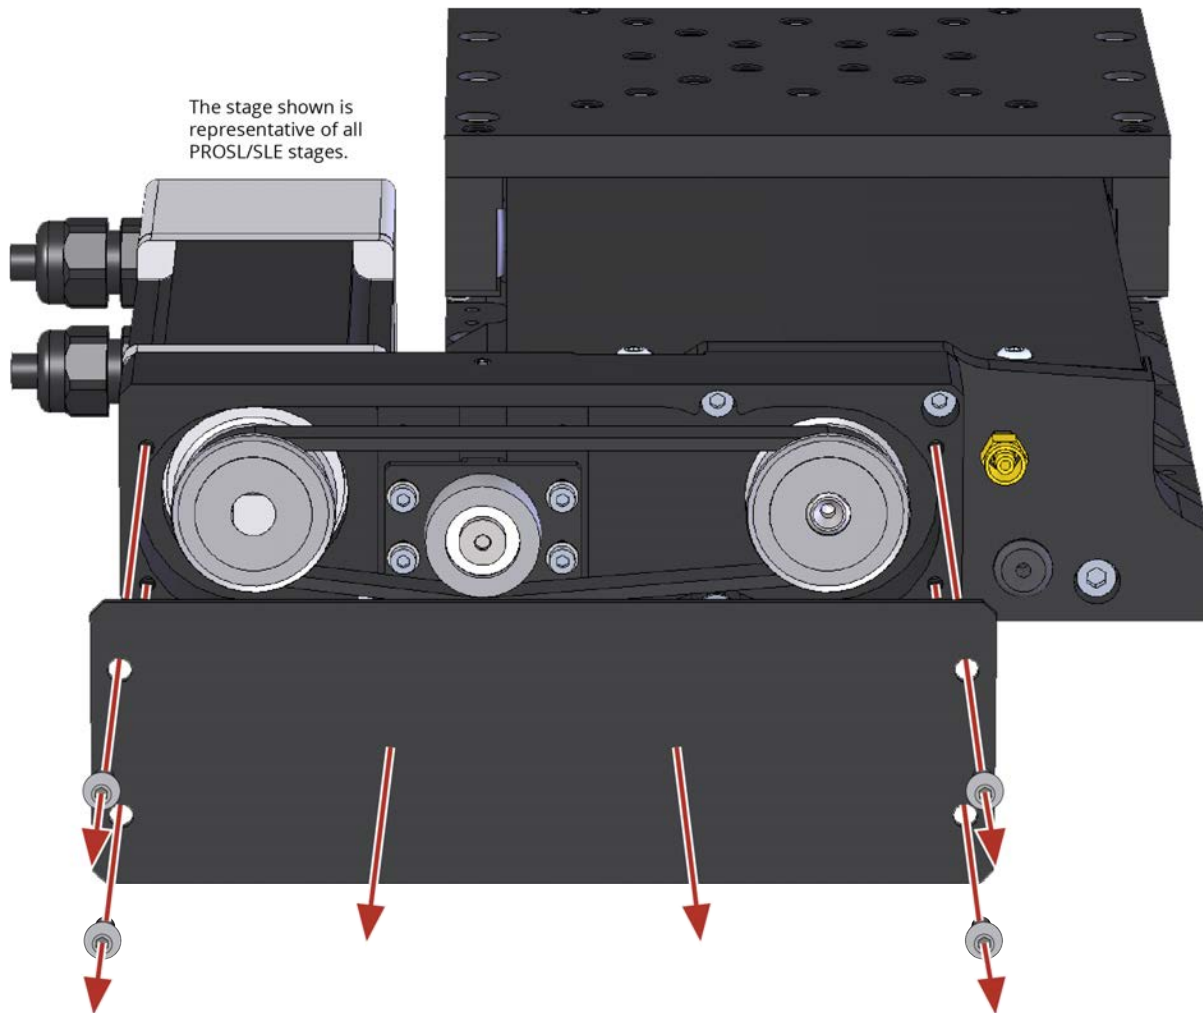

Figure 4-8: Foldback Motor Cover Removal
2. Remove the four mounting screws for the foldback cover (Figure 4-8).